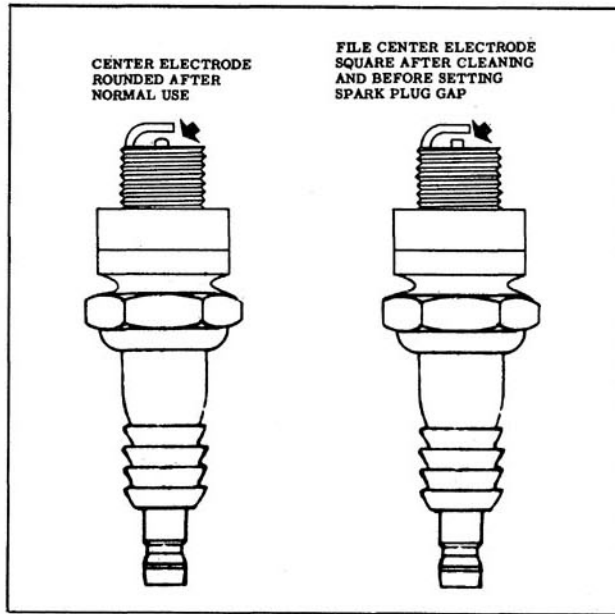

Fig. 13-77 Filing Center Electrode
1. The center electrode should be filed flat before the gap setting is made. (Fig. 13-77) Spark plug gap should be .030".